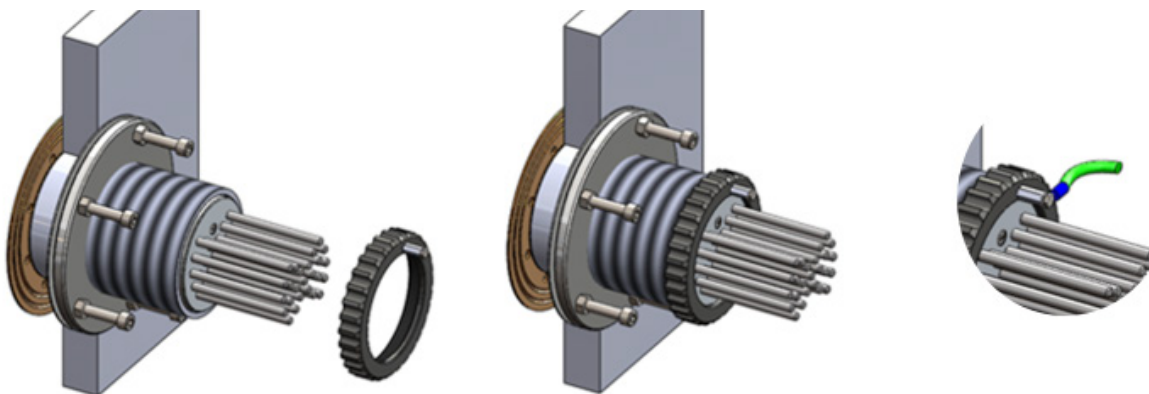

Fig.4.3
5. You will now need to re-install the rear locking ring which is packed separately. This locking ring is simply screwed onto the rear of the housing until it comes to a stop. It is crucial that this ring is screwed down all of the way until this stops. Tools are included in this kit to help with this Installation. The larger style half-spanner tool, marked 'A', will fit into the grooves on this locking ring. Slide the 3-hole tool, marked 'B', down the pins on the rear of the light unit and you will be able to leverage this ring until it is tight against the body of the light unit. (See Fig.4.3)..
6. **Bonding:** Attach the vessels bonding / cathodic protection system using the supplied earth bolt to the locking ring. Ensure the end of the bolt bites in to the anodising of the housing. This is to ensure a good electrical contact to the housing (See Fig. 4.3) **Please refer to Chapter 9.1 for full bonding instructions, 9.2 for bonding testing instructions.**